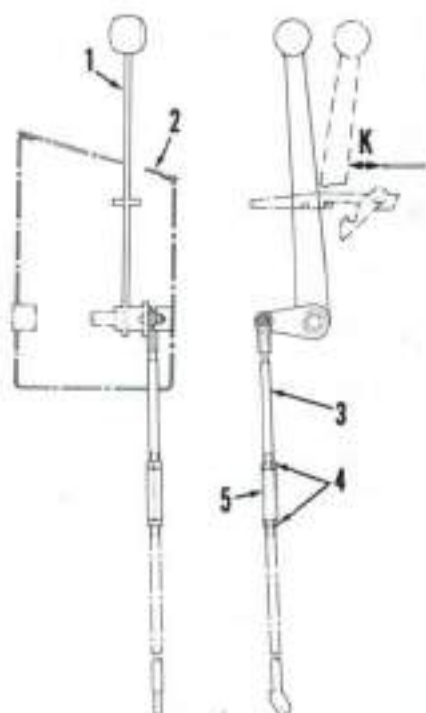

Fig. 255—With quadrant control lever moved rearward to full lift position, distance (K) between lever and end of quadrant slot should be 36 mm (1-7/16 inches).
320. LIFT LINKAGE CONTROL LEVER ADJUSTMENT. Move control lever rearward to full lift position. Distance (K—Fig. 255) between rear edge of control lever (1) and end of quadrant slot should be 36 mm (1-7/16 inches). To adjust, loosen locknuts (4) and turn control rod adjuster (5) as necessary.